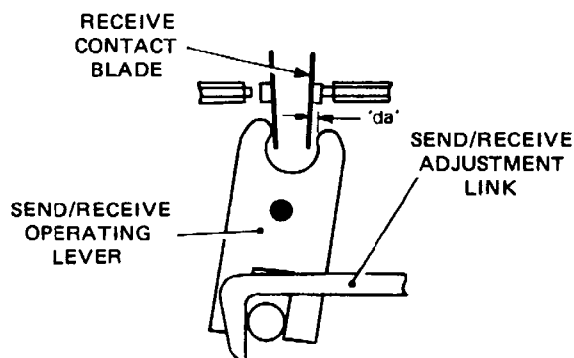

Fig. 4.111 SEND/RECEIVE OPERATING MECHANISM
- 120.5 Turn the machine by hand until the send/receive adjustment link is fully to the left and the receive contact is closed (Fig. 4.111). Check that there is a clearance of at least 0.004 inch between the peg on the send/receive operating lever and the receive contact blade (clearance 'da').